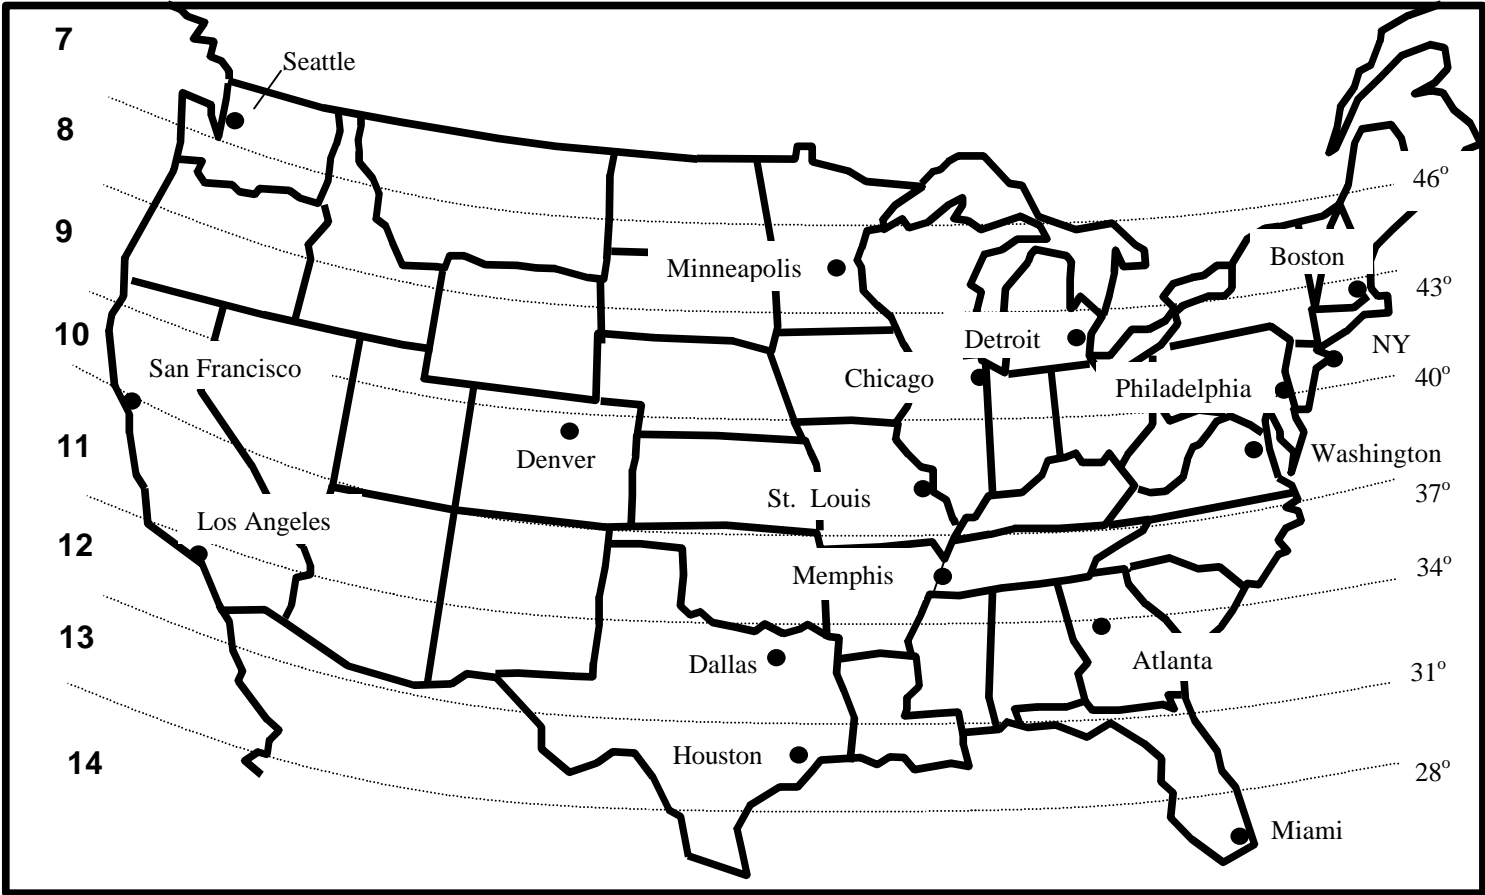

Figure 2-2 : Latitude Compensation Zones (USA)
- Step 4. Turn the scale's AC power on to begin use. When the scale is switched on for the very first time, the message "d-ZonE" appears on the display. Press the numeric key corresponding to the correct geographic area in the map shown in Figure 2-2 then press the **ENTER** key to save. **Note** – If there is no corresponding geographic area, enter "0" then press the ENTER key. No gravitation adjustment will be performed.